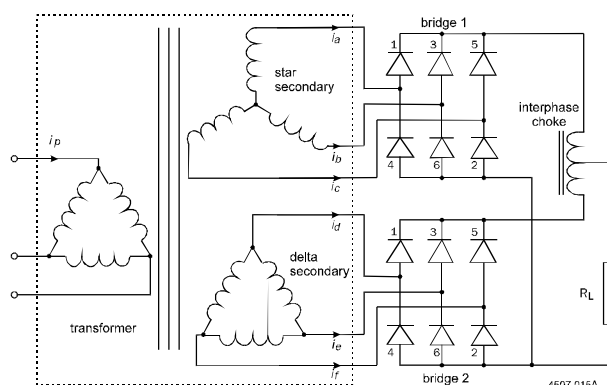

Figure 5: 12 Pulse Bridge Rectifier Configuration
- 4. Consider installing a 12-pulse distribution system.** If the power conversion equipment can have its input rectifier split into two bridge rectifiers, and the line voltages to each bridge phase shifted by 30 electrical degrees to each other, an elimination of all harmonics below the 11th will theoretically occur. Figure 5 refers.